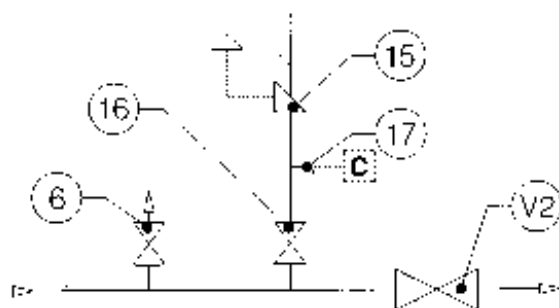

Fig. 8
3.3.2 INSTALLAZIONE CON VALVOLA DI INTERCETTAZIONE (FIG. 8)
3.3.2 INSTALLATION WITH ON/OFF VALVE (FIG. 8)